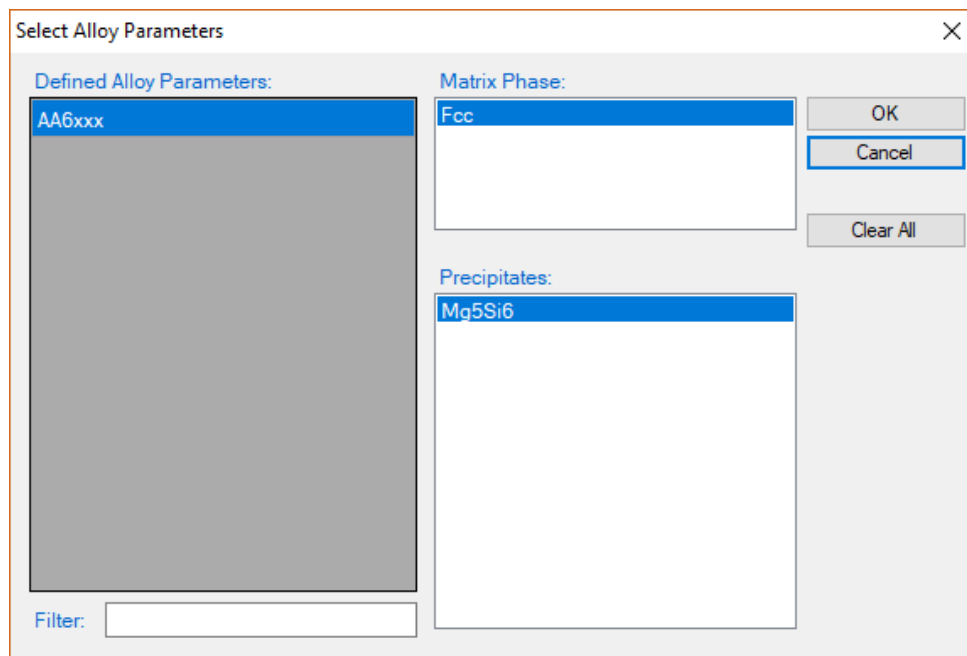

Figure 3.4.1: The matrix phase and the precipitate phase for AA6005
- Click on PanPrecipitation on the menu bar and select Load KDB, then select the AA6xxx.kdb, the pop-out window is shown in Figure 3.4.1 which include the alloy name, the matrix phase and the precipitate phase;